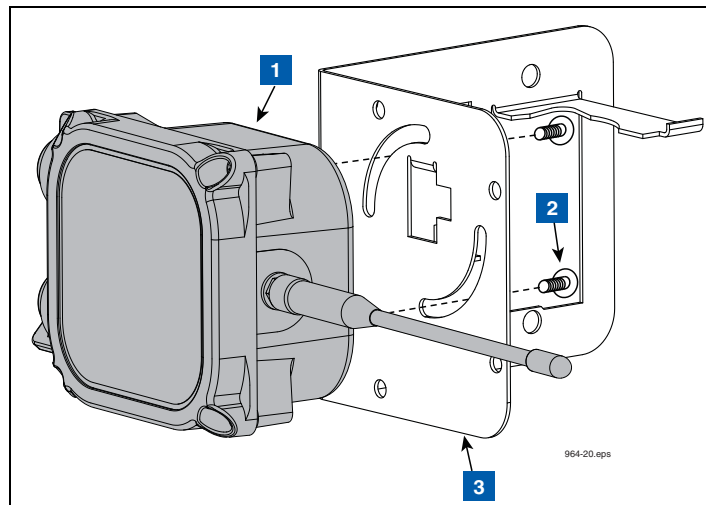

Figure 24. Attaching Transmitter To Battery Support Bracket
3. Using two taptite screws from the kit, attach the Transmitter housing to the side of the battery support bracket that has the two circular slots (see Figure 24). Do not tighten screws at this time.
LEGEND FOR NUMBERED BOXES IN Figure 24
7. Attach the battery housing/bracket assembly to the back mounting surface of the Universal Enclosure using two #10 taptite screws from the kit (see item 4 in Figure 24).